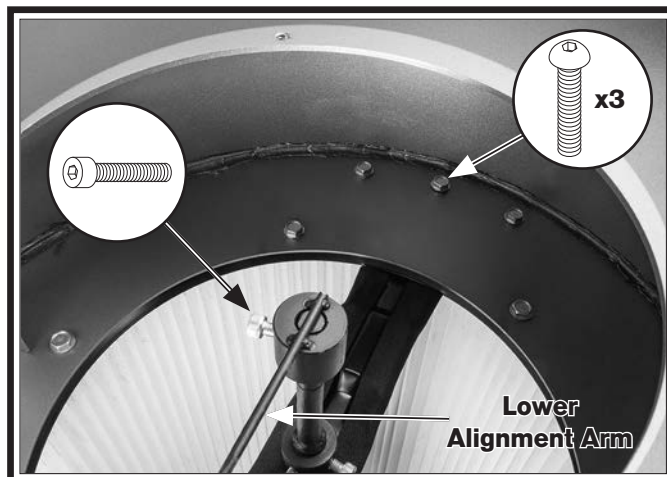

Figure 71. Lower alignment arm and rear panel attachment locations.
4. Loosen cap screw and remove lower alignment arm from filter spindle (see **Figure 71**).
5. Remove (3) button head cap screws securing rear panel to housing assembly (see **Figure 71**).